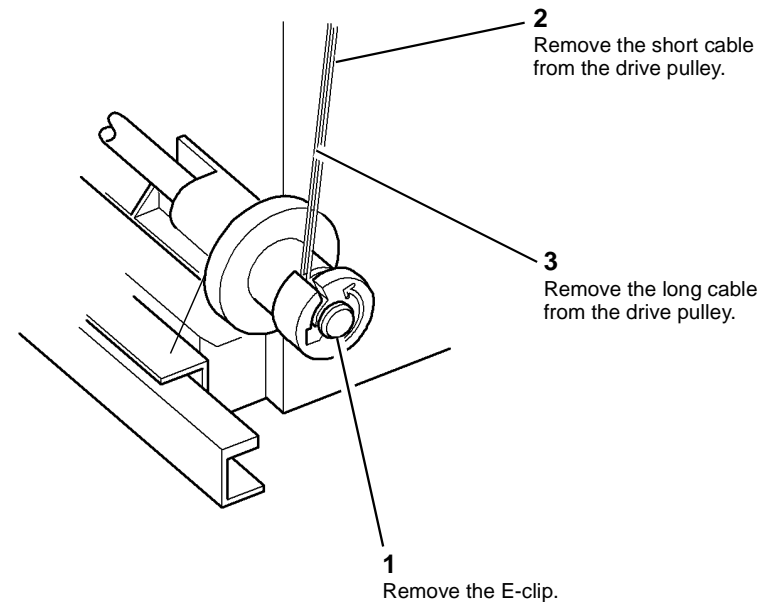

Figure 1 Front elevator cables release
- Release the cables from the appropriate front drive pulley, Figure 1.